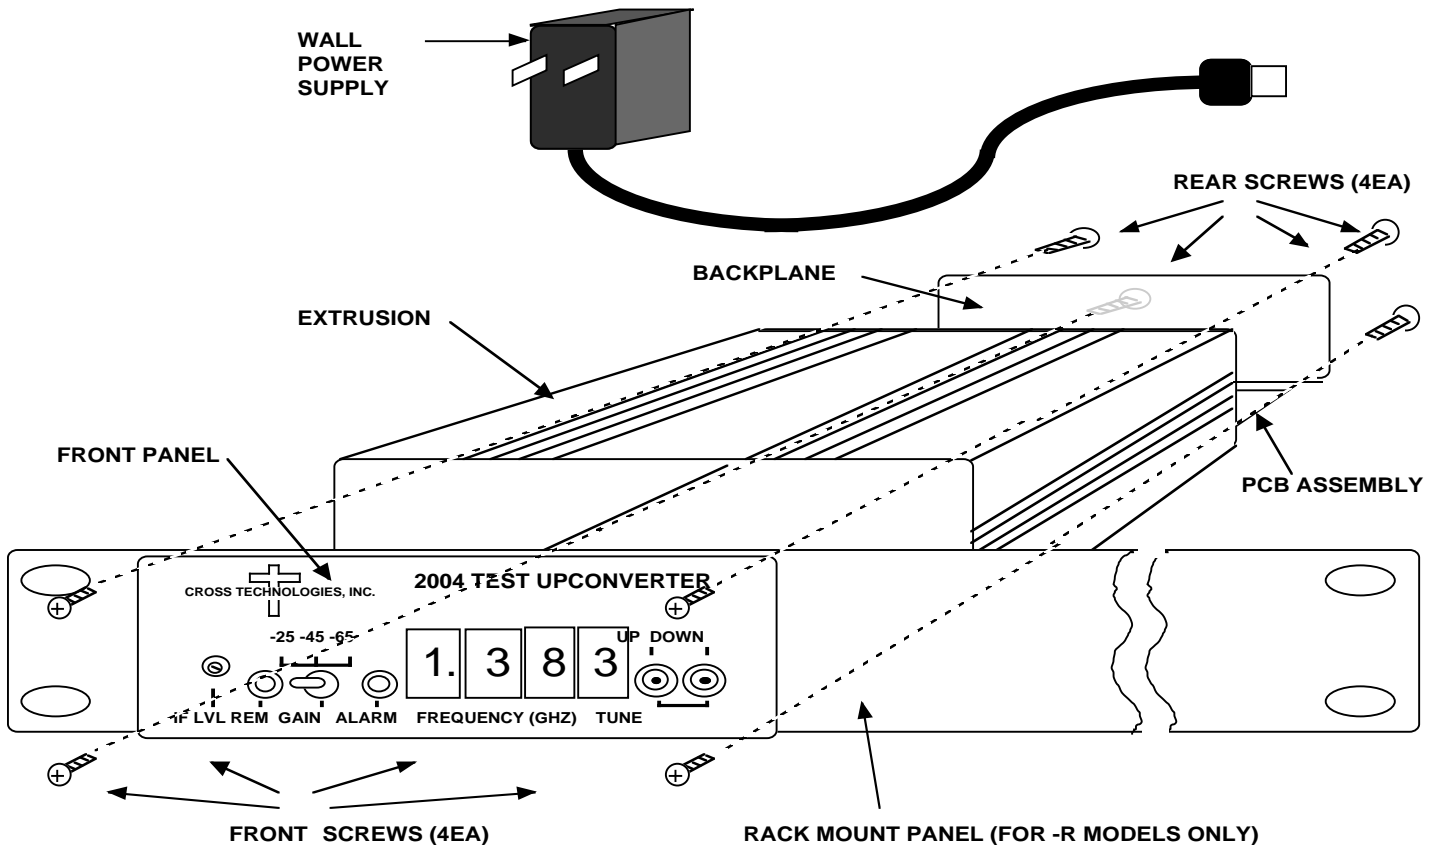
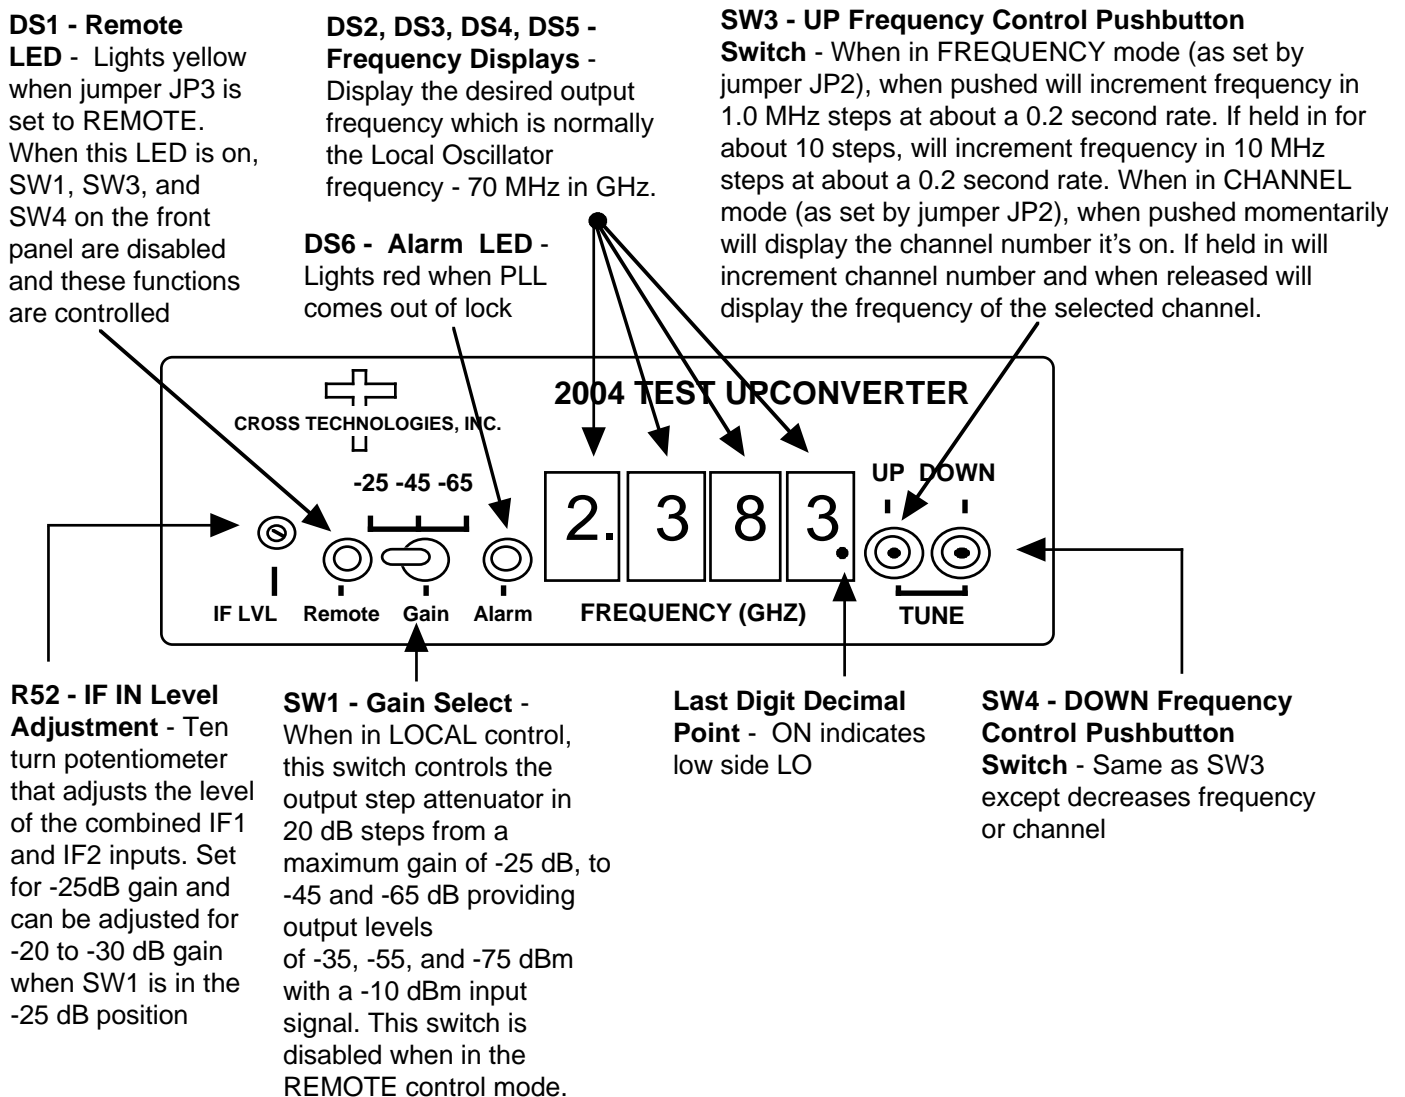
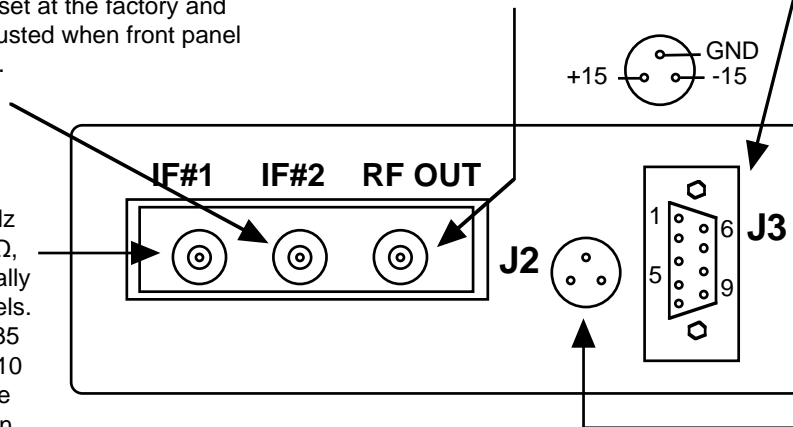
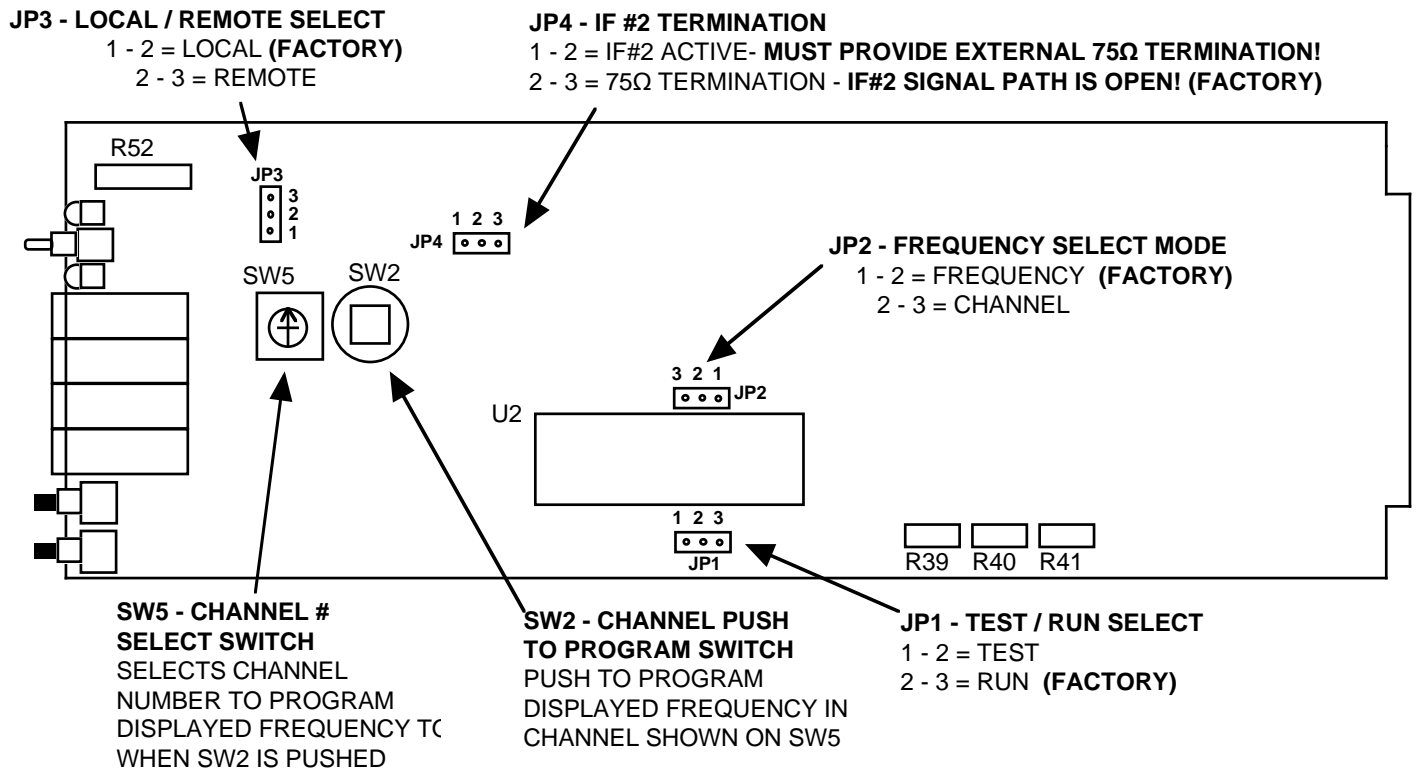

FIGURE 2.1 SERIES 2000 ASSEMBLY DRAWING
FIGURE 2.2 2004-10 Front Panel Controls and Indicators
FIGURE 2.3 2003 and 2004 Inputs and Outputs
FIGURE 2.4 2003 and 2004 On-Card Jumpers and Controls (See Section 2.4 for instructions on removing the PCB from the extrusion)
2.1 Mechanical - The 2004-10 and 2004-10R are packaged in an aluminum extrusion. The 2004-10R is mounted on a 1 3/4" X 19" panel that can be mounted to a rack using the 4 holes at the ends. Both units derive $\pm 15V$ from the wall power supply or an external regulated power supply such as the Cross Technologies, Inc. model 2000-01. See Figure 2.1.
2.2 Controls and Indicators - Figure 2.2 shows front panel controls and indicators.
2.3 Input / Output Signals - Figure 2.3 shows the input and output signals to the 2004.
2.4 Accessing and Changing On-Card Jumpers and Controls - Figure 2.4 shows jumpers (with factory settings) and other on-card controls. To remove the printed circuit board (PCB) from the extrusion for access to the jumpers and controls:
- 1.) Remove four (4) **rear panel screws** (see Figure 2.1).
- 3.) With the **wall power supply disconnected**, move jumpers to the desired positions (Figure 2.4).
- 7.) Install four (4) **rear panel screws**.
- 1.) If required, check that on-card jumpers are set to the desired positions (Figure 2.4)
- 2.) Connect the wall power supply to the 2004-10 and the wall power supply to 115 VAC, 60 Hz (Figure 2.1)
- 3.) Connect a -10dBm signal to IF #1 In (Figure 2.1, Figure 2.3)
- 4.) Connect a -10dBm signal to IF #2 In (Figure 2.1, Figure 2.3). If this port is not used it must be terminated in 75Ω by connecting on-card jumper JP4 in the 2-3 position (Figure 2.4).
- 5.) Set the desired frequency by pushing SW3 or SW4. If numbers 0 to 9 appear when pushing SW3 or SW4, the 2004-10 is set for the channel mode (with on-card jumper JP4, Figure 2.4). See section 2.5.2 for frequency setting information.
- 6.) Set SW1 for the desired gain (Figure 2.2).
- 7.) Be sure DS1 and DS6 are off (Figure 2.2).
- 8.) If needed, R52 can be adjusted (Figure 2.2) for input signals that are different than -10 dBm (-5 to -15 dBm). Note that this adjusts the levels of both IF #1 and IF #2 and uncalibrates the 2004-10 from its -10 dBm input setting.
- 2.) **To go to the change modes function**, simultaneously **press and release both the Up and Down pushbutton** switches (SW3 and SW4, see Figure 2.2). The current IF frequency is shown on the displays.
- 5.) **To check the selected IF frequency**, momentarily **press and release both the Up and Down pushbutton** switches (SW3 and SW4, see Figure 2.2)
2.5.4 Frequency Setting, Channel Mode - A second tuning mechanism is channel selection. This is accomplished when the on board three-pin jumper (JP2) (Figure 2.4) is set to the "channel" position. Ten preset channels (0-9) can be selected as follows:
1. The 2004-10 PCB is removed from the extrusion (see section 2.4 for instructions) to access the channel selecting decimal switch (SW5) and the push to program switch (SW2) (Figure 2.4). With the display mode jumper (JP2) set in the frequency mode, the frequency set switches (SW3,SW4) are pushed to the frequency desired (Figure 2.2).
2. The decimal switch (SW5) is set to the channel number desired to be programmed (Figure 2.4).
3. Push programming button (SW2) to program the displayed frequency into that channel number (Figure 2.4).
5. When finished, set JP2 (Figure 2.4) in the "Channel" position if this tuning mechanism is desired.
2.5.5 Remote Operation - Frequency control and setting of the output attenuator can be remotely commanded from an external (not supplied) PC using a simple DOS program. To place the 2004-10 in the Remote mode, place on-card jumper JP3 in the REMOTE (pins 2-3) position (Figure 2.4) and observe yellow LED DS1 (Figure 2.2) is on. Serial ASYNC (8N1) data is received via RS232C receiver U4 and sent via RS232C transmitter U13 at a 9.6kB/s data rate. When in the remote mode, either frequencies or channel numbers can be provided, but programming the frequencies of the channels can only be done locally. When in the remote control mode, the selection of U6 and consequently the output attenuator U16, U24 is controlled through the remote serial port disabling the function of front panel attenuator control switch SW1 and providing gain selection of -25 dB, -45 dB or -65 dB.
The remote control program sends commands to the 2004-10 through pin 3 of the DB9 connector, J3 (Figure 2.3). Pin 3 is an RS-232 serial port set to accept 8N1 formatted data. Each command sent to the 2004-10 consists of an instruction byte followed by one or two bytes of data. The 2004-10 acknowledges receiving and successful executing each remote control command by sending an **acknowledge byte** (9600 baud, 8N1 format) through pin 2 of the DB9 connector, J3.
3.2.3 Frequency Setting, Channel Mode - A second tuning mechanism is channel selection. This is accomplished when the on board, but not front panel accessible, three-pin jumper (JP2) (Figure 2.4) is set to the “channel” position. Ten preset channels (0-9) can be selected as follows:
5. When finished, set JP2 (Figure 2.4) in the “Channel” position if this tuning mechanism is desired.